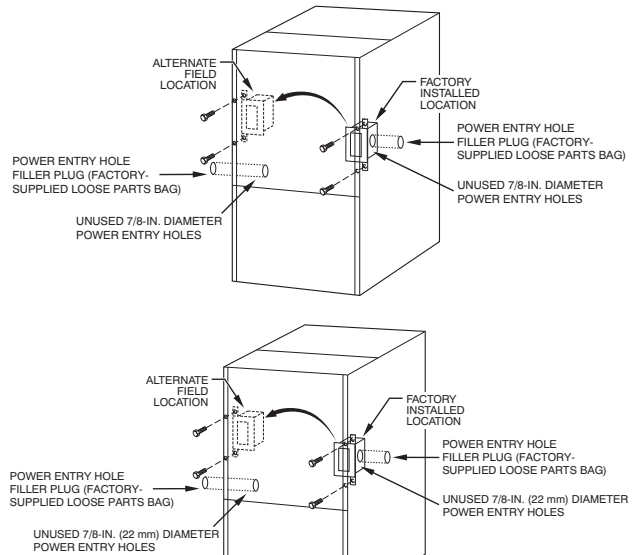

Fig. 32 – J-Box Relocation
1. Remove two screws holding auxiliary J-box. (See Fig. 32.)